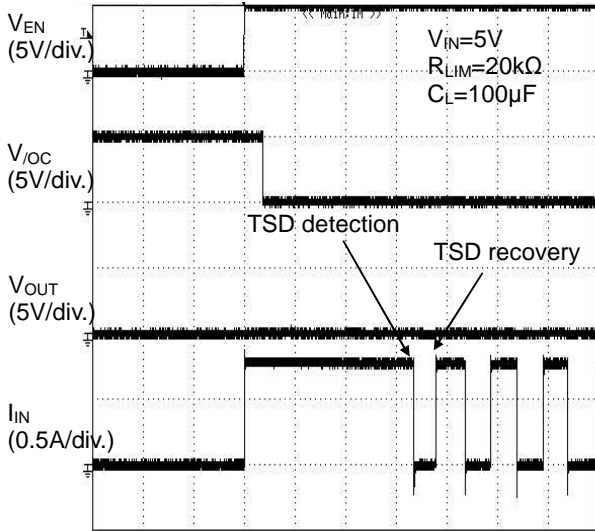

Figure 42. Over Current Response Enable Into Short Circuit (BD2242G)
(1). When the switch is turned on while the output is in short-circuit status, the switch gets in current limit status immediately. (See figure 42)